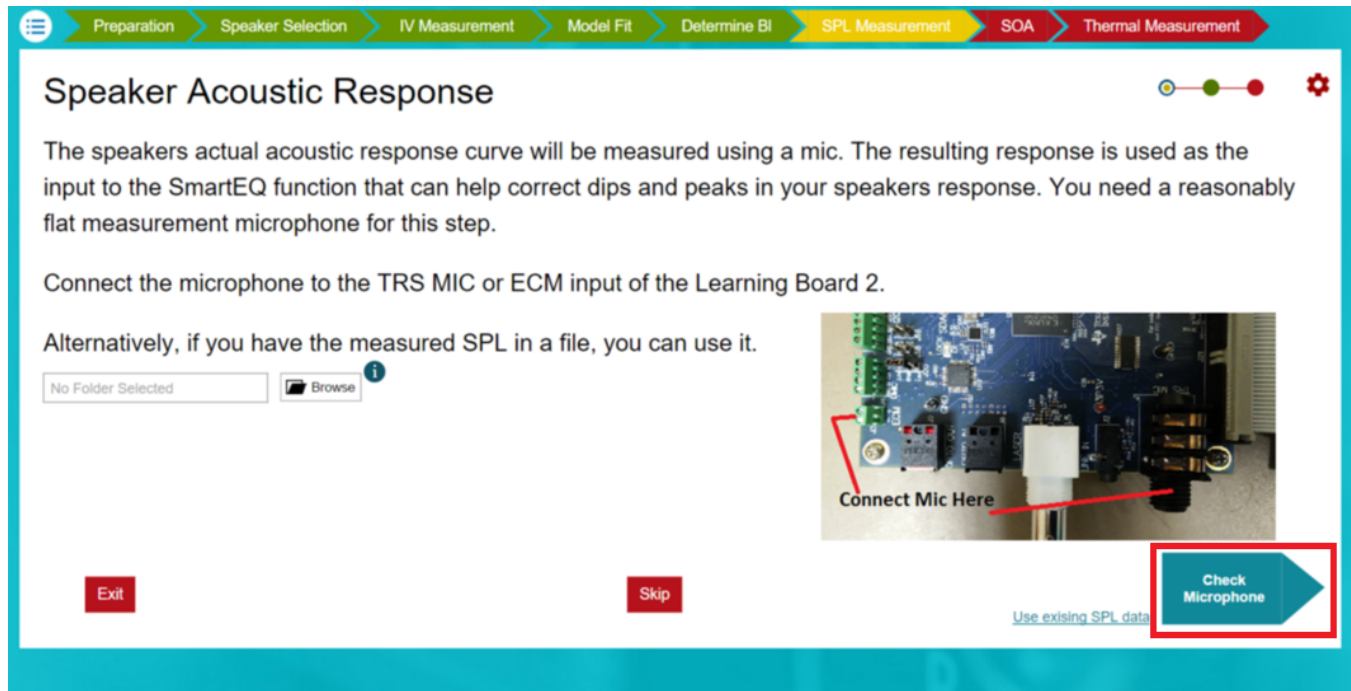

Figure 9. SPL Measurement
- Continue to the SPL Measurement Tab and select Check Microphone, as shown in Figure 9, to test the microphone and then begin the SPL Measurement to obtain an SPL similar to Figure 10.